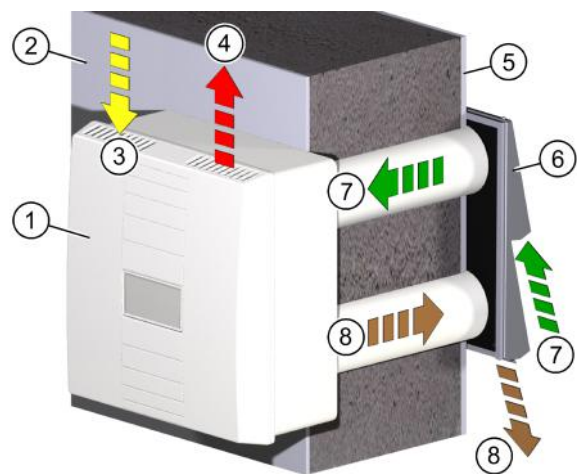
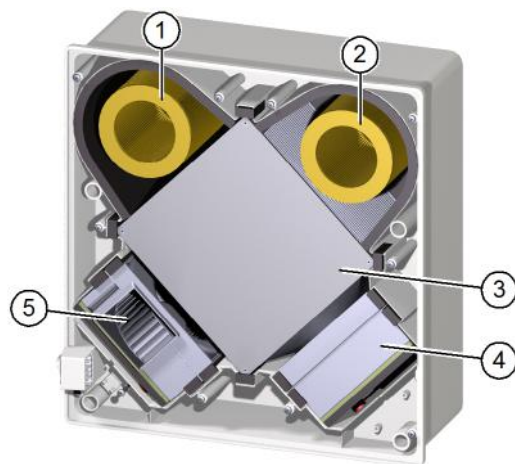

Fig. 8: How the ventilation unit works
Fig. 9: Components for air exchange
The supply air fan (item 5 in Fig. 9) transports outdoor air (item 7 in Fig. 8) through the supply air filter (item 2 in Fig. 9) and cross-flow plate heat exchanger (item 3 in Fig. 9) into the interior as supply air (item 4 in Fig. 8). The extract air fan (item 4 in Fig. 9) extracts the extract air (item 3 in Fig. 8) from the interior. In the extract air filter (item 1 in Fig. 9), the extract air is cleaned, guided through the cross-flow plate heat exchanger and carried outside as exhaust air (item 8 in Fig. 8). The supply air and extract air fans each transport the same volume of air. The pressure in the interior remains practically constant.